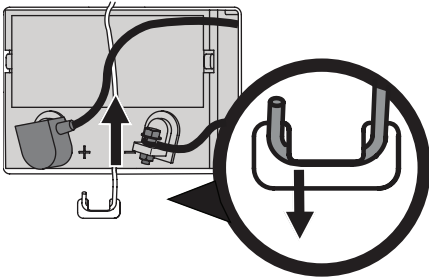

Figure 15
1. Remove the battery hold down bracket by pushing the hooked end out of the tab on the fender to the right side of the battery. Then flip the battery hold-down bracket up to free the battery. See Figure 15.